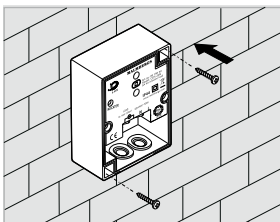

Fig. 6
2. Fix the bottom case on the wall with two screws (See Fig. 6).